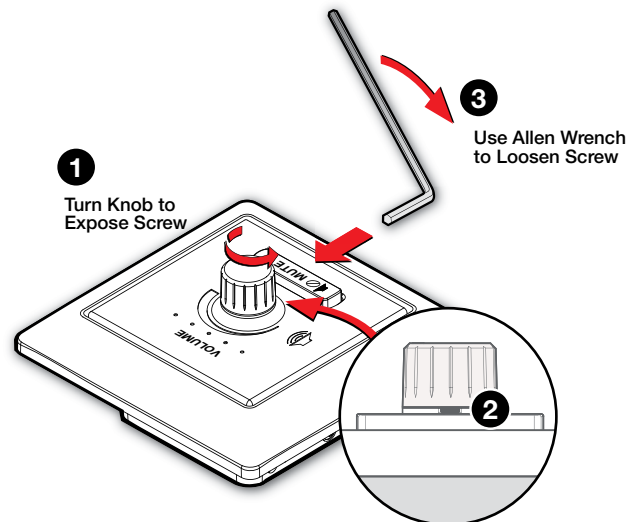

Figure 3. Remove the Rotary Encoder (VC1 models only)
1. **EBP VC1 EU and EBP VC1 MK only:** Turn the rotary encoder knob (figure 3, ①) to expose the hex screw holding the knob in place (②).
2. Insert the provided 0.05 inch Allen wrench and turn the wrench in the direction shown (③) to loosen the screw.